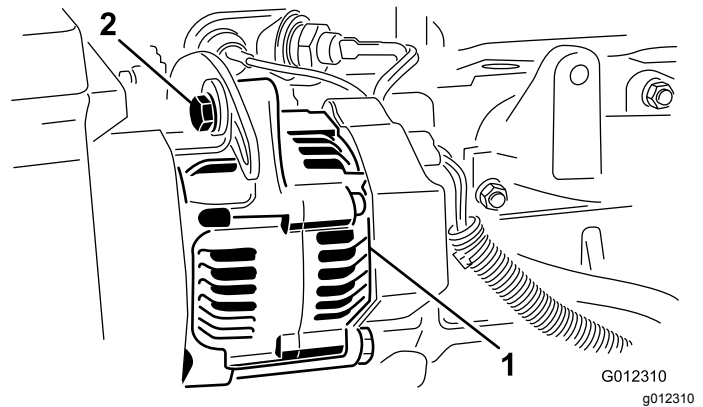

Figure 44
- If the deflection is not 10 mm (3/8 inch), loosen the alternator mounting bolts (Figure 44). Increase or decrease the alternator belt tension and tighten the bolts.